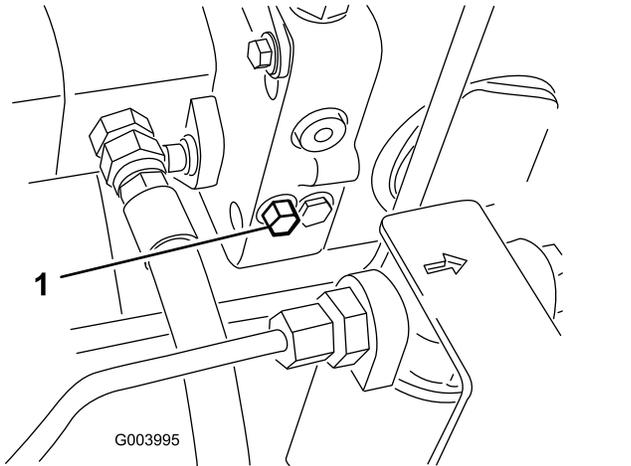

Figure 69
1. Rotate the bypass-valve bolt 1-1/2 turns to open and allow oil to bypass internally (Figure 69).